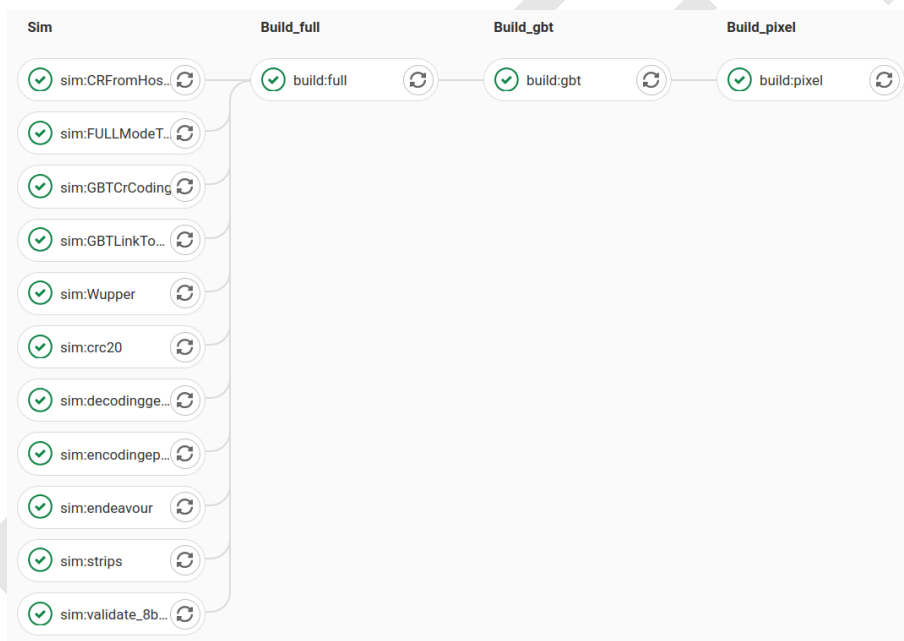

Figure 10.2: Continuous Integration Pipelines as seen in the Gitlab interface.
- 2735 A typical pipeline for phase2/firmware CI is shown in Figure 10.2